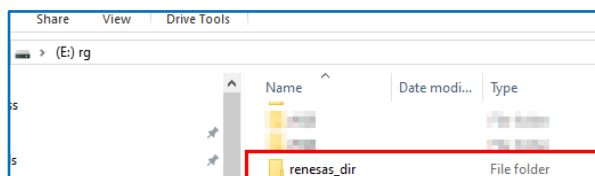

Figure 27 Directory creation
- Creating a directory is illustrated in *Figure 27 Directory creation*.